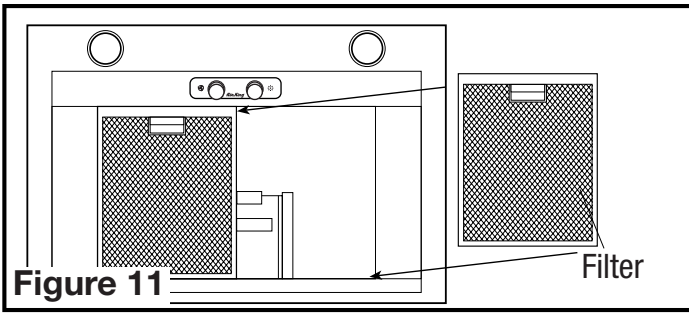

Figure 11
**Grease Filters:** If the range hood will be vented to the exterior of the home, install the grease filters supplied with the hood by sliding tab at rear of filter into slot in hood. While holding in handle of filter, lift filter into place and release handle. The filter should snap securely into place (Figure 11).